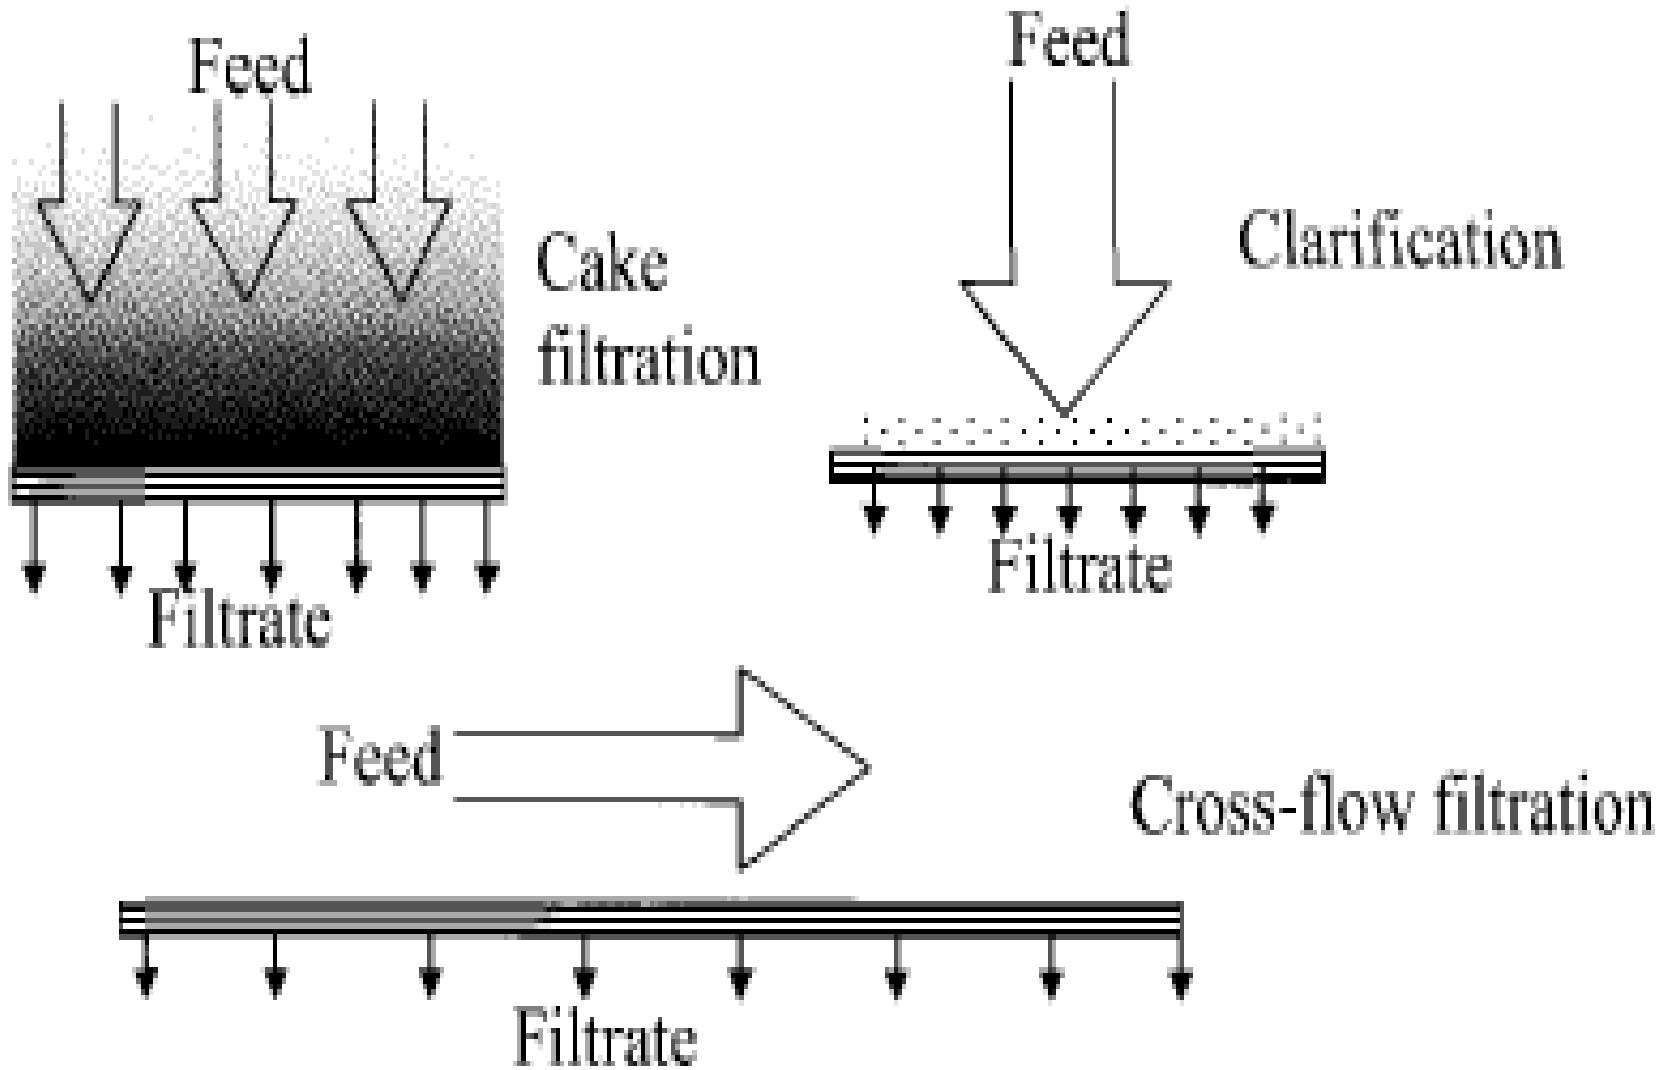

Fig1- type of filtrations
- Filtration can be broadly classified into three categories according to the purpose of it: (see Fig. 1).